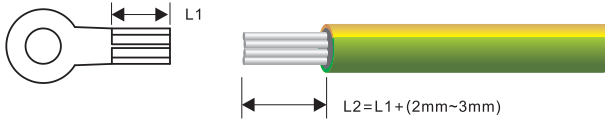

Figure 5.1 Stripped length (unit: mm)
**Step 1** Remove an appropriate length of the insulation layer from the PGND cable using a wire Stripper; the length is a little bit longer than that of OT terminal's crimping end by 2mm~3mm, as shown in Figure 5.1.